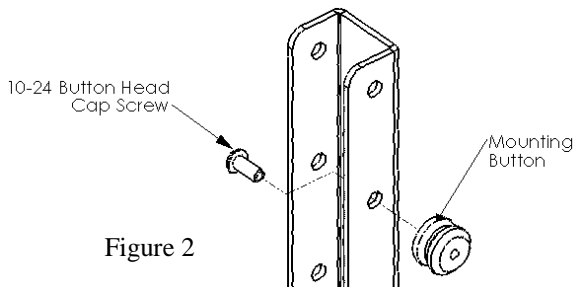
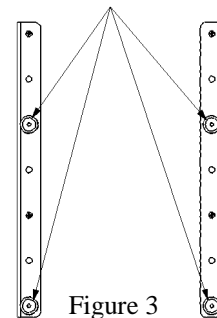

Figure 2
Figure 3
1. **Chief Q-latch Button Installation (Used with MSR, MTR, MWH, MWR, MCS and MCD mounts):** Using a 10-24 button head cap screw inserted from inside of bracket, secure mounting button, with chamfered hole of mounting button (larger surface) facing bracket, bracket (four places) (see Figure 2 & Figure3).